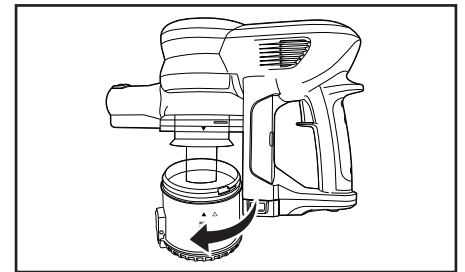

Fig. 3
1. Turn the dust cup clockwise to line-up the arrows and remove from the vacuum (Fig. 3).